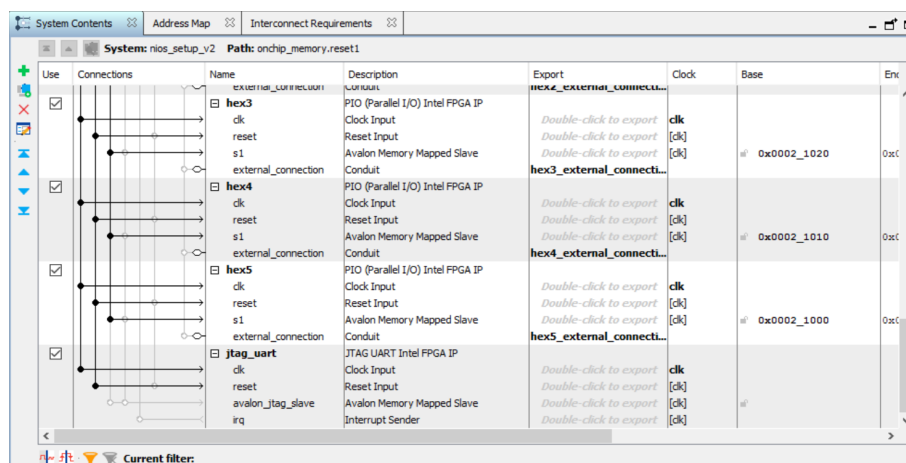

Figure 10: JTAG UART Connections
- ☐ Click on the button **Generate HDL**. A screen like Figure 10 should appear.